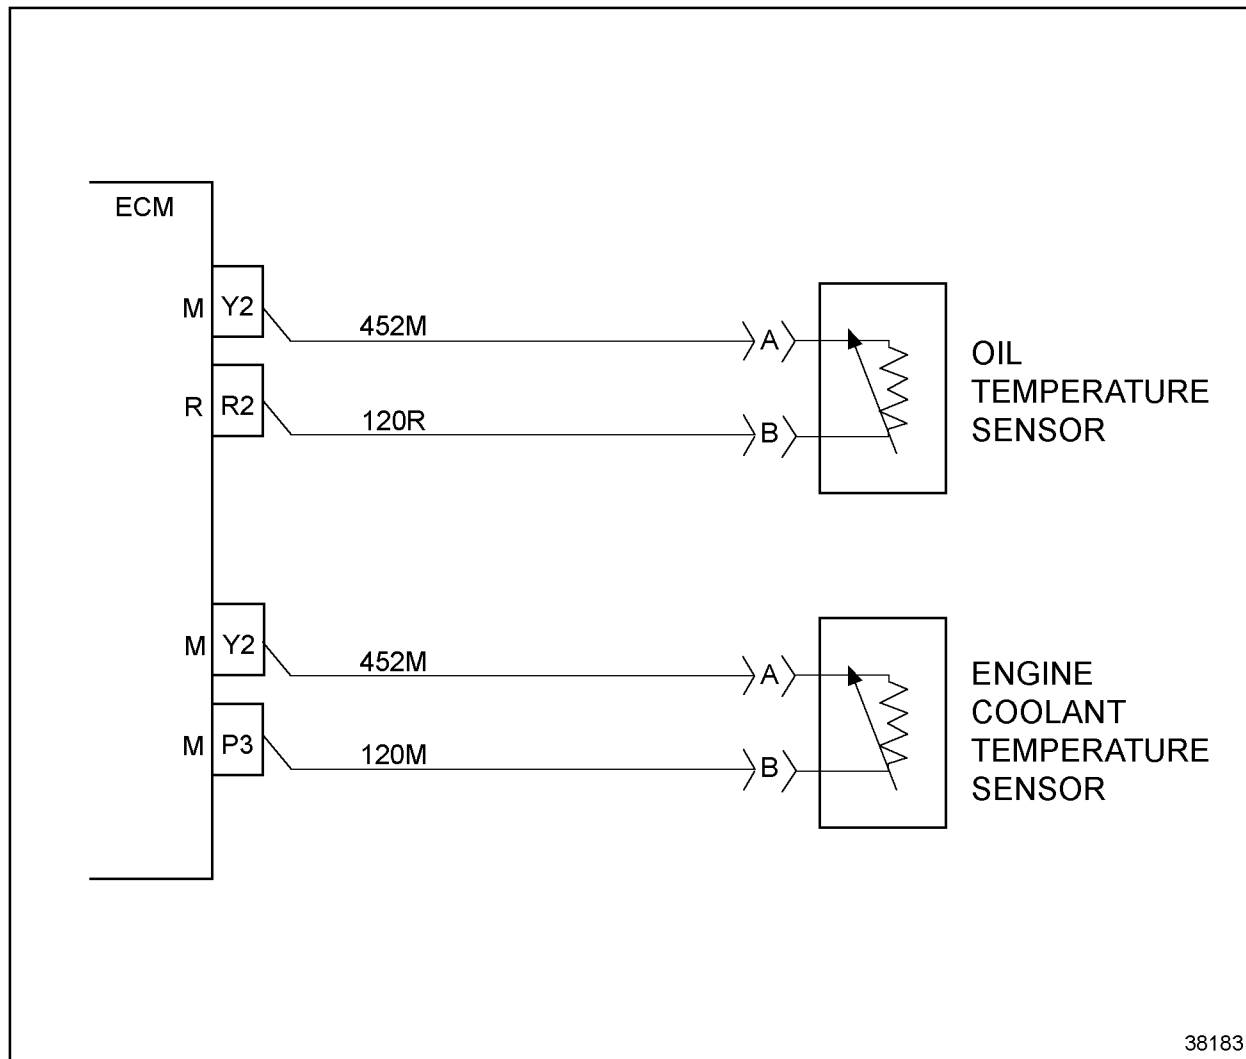

Figure 14-6 Temperature Sensor Circuits
1. Check terminals at the OTS connector (both sensor and harness side) for damage: bent, corroded and unseated pins or sockets. See Figure 14-6.